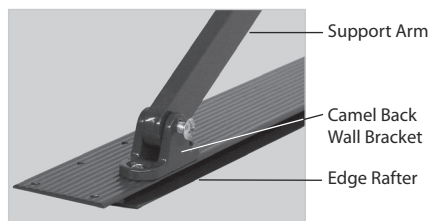

FIG. 3
**NOTE:** Insert the machine screws through the Camel Back Wall Bracket and Support Arms (FIG. 3) **from the outside in**, toward the awning.